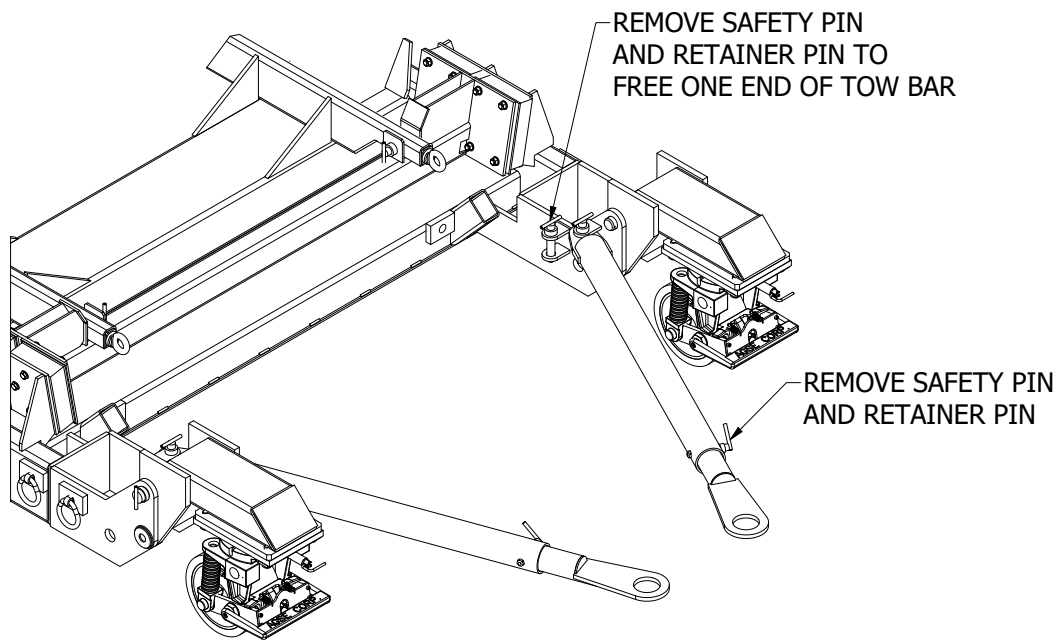

Figure 5.3-1
- 3). Rotate each tow bar assembly outward as shown in Figure 5.3-1.